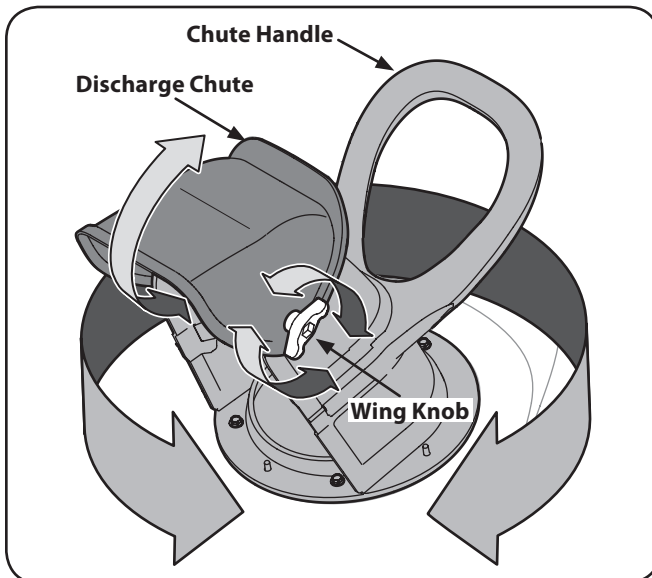

Figure 5-1
1. Rotate the discharge chute to the left or right using the chute handle. See Fig. 5-1.
2. To adjust the pitch, loosen the wing knob on the side of the discharge chute and pivot the discharge chute upward or downward. Retighten the knob once the desired position has been achieved. See Fig. 5-1.